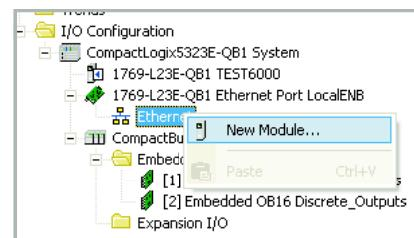

Figure 84 New Module
1. In the left pane tree-view of the RSLogix 5000 window, right-click on the EtherNet symbol and select 'New Module...' from the menu (Figure 84).